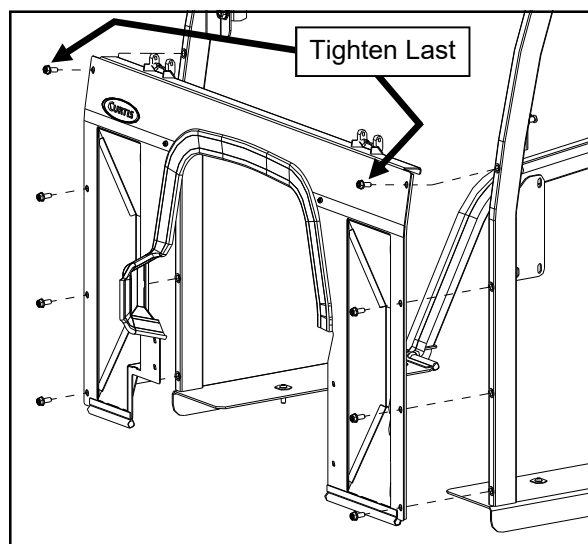

Fig. 3.1 (Cowl Installation - Tractor not shown for clarity)
2.1 Place the cowl over the vehicle hood in preparation for the side frames. See Fig. 3.1 on the next page for orientation and reference.
3.1 Fasten the cowl to the side frames as shown in Figure 3.1. The bulb rubber in the center should lay across the dashboard and flex inwards towards the steering wheel. Fasten to the factory installed threaded inserts in each side frame. Starting from the top, install all fasteners finger tight. Next, tighten lower (6) screws first and then tighten upper (2) screws.